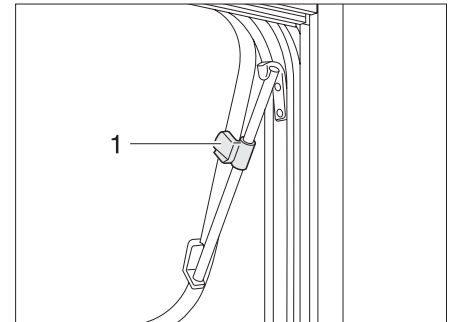

Fig. 41 Hinged window with rotary hinges, open
- ▶ Open the hinged window until the required position has been reached and secure in position using the knurled knob (Fig. 41,1).
- ▶ Turn the knurled knob (Fig. 41,1) until the latch is released.